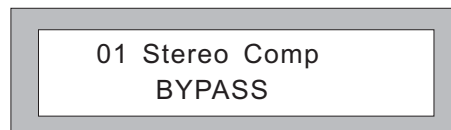

Fig.12
6. BYPASS-First press it to disable the compression (as fig.12). Press it again to resume the function.